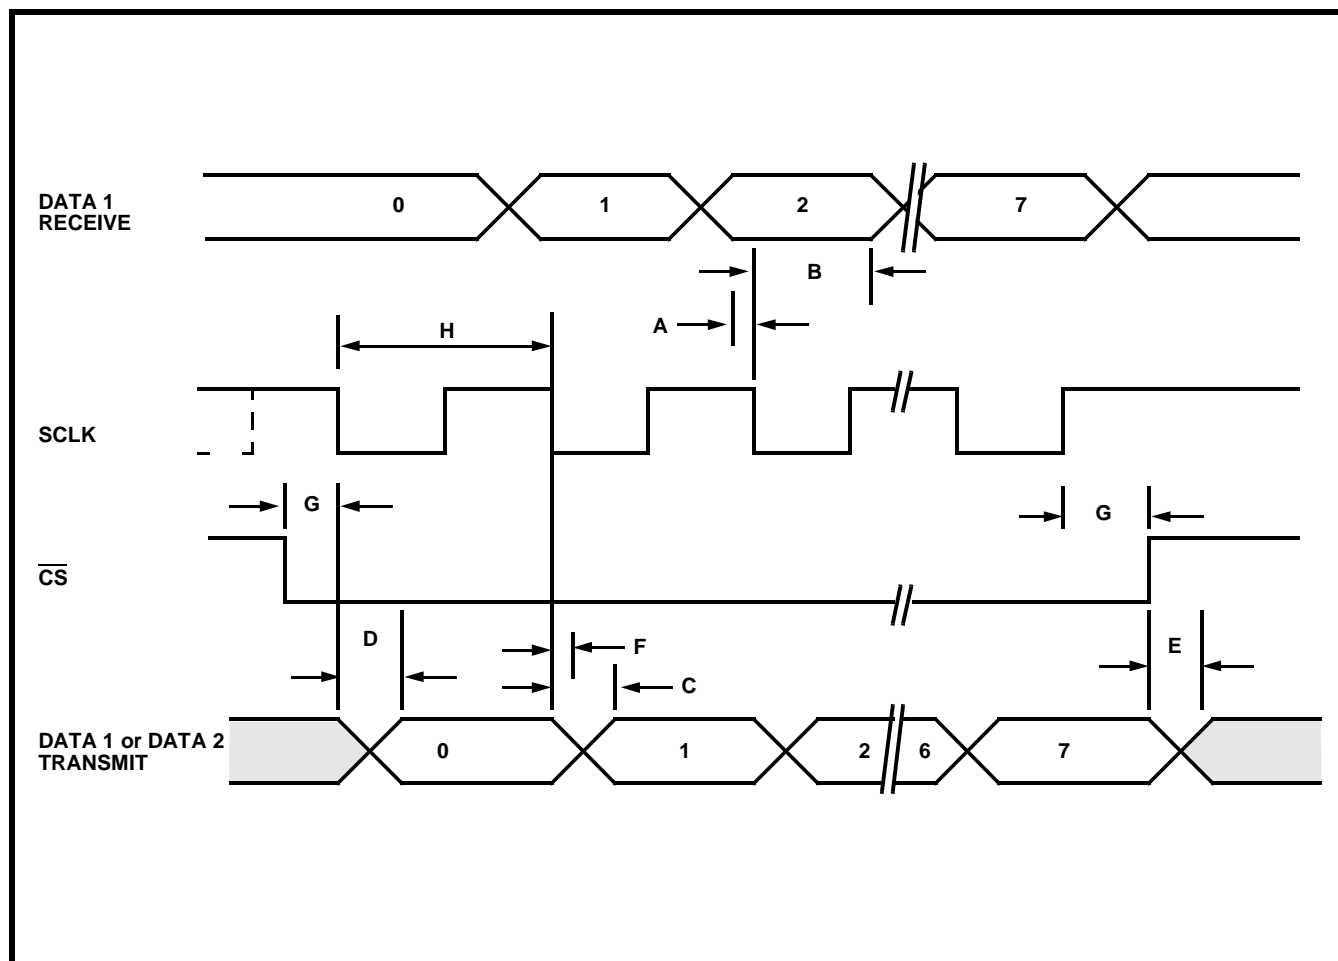

Figure 12 - Serial Microport Timing Diagram
**AC Electrical Characteristics† - Microport Timing (see Figure 12)**